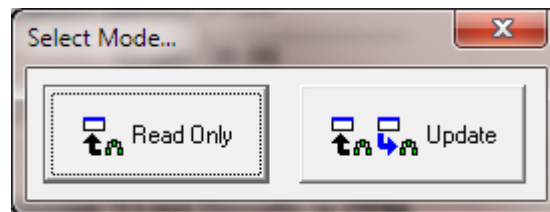

Figure 5-3: Select Mode Dialog Box
- b) Once the data transfer is complete (which may take a minute or two), the *Select Mode* dialog box (Figure 5-3) will be presented.